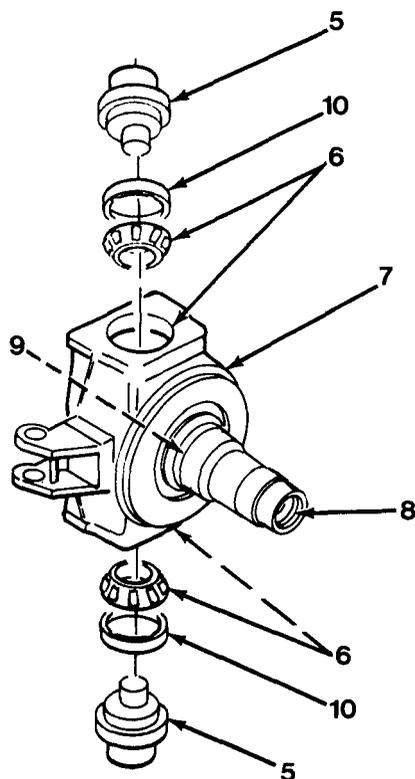

Figure 12-2
8. Remove and tag trunnions (5, Figure 12-2).
9. Remove upper and lower bearings (6) from trunnions (5), if necessary.
- 10 Pull pivot and spindle assembly (7) horizontally outward.
- 11 If inspection proves necessary, pull out bearing cups (6).